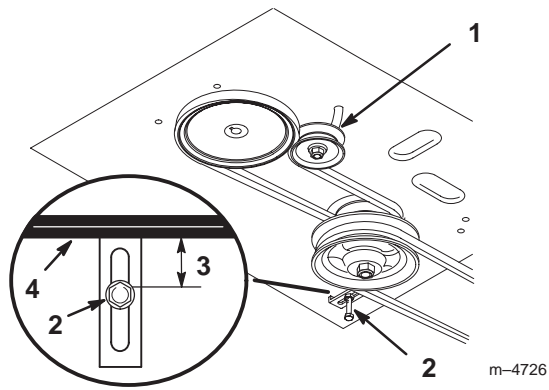

Figure 45
6. Install new belt around engine and drive pulleys (Fig. 45).
7. Slide idler pulley in engine frame to tension traction belt (Fig. 45).
9. Check the belt guide under the engine frame for proper adjustment (Fig. 45). The distance between the belt guide and mower belt should be 1-1/4 in. (32 mm) when mower belt is engaged. Adjust as necessary. The disengaged belt should not drag or fall off pulley when guides are properly adjusted.
11. Check the belt guide under the engine frame for proper adjustment (Fig. 45). The distance between the belt guide and mower belt should be 1-1/4 in. (32 mm) when mower belt is engaged. Adjust as necessary. The disengaged belt should not drag or fall off pulley when guides are properly adjusted.